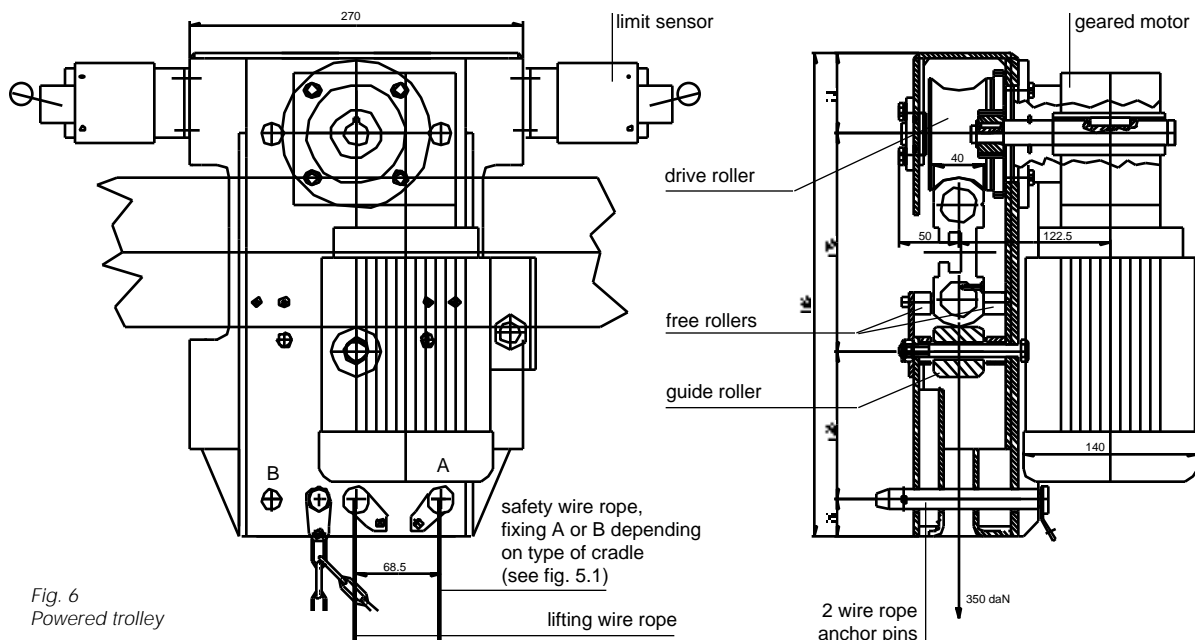
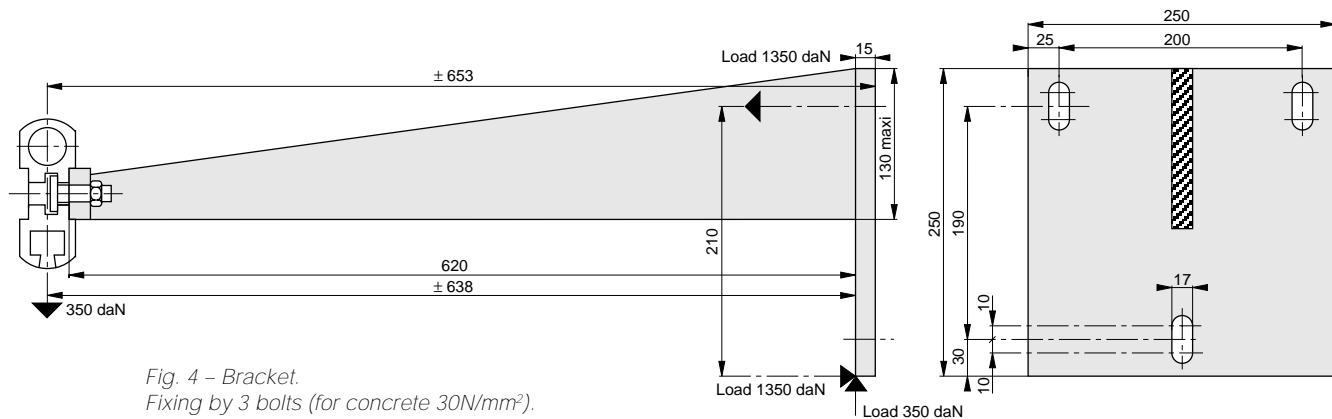

Fig. 6
Fig. 4 – Bracket.
8.2. Powered trolley (Fig. 6)
The brackets (Fig. 4) which support the rail, are positioned every 3 m on the straight sections and as set out in figures 6 to 9.1. for the curved sections. The brackets are galvanised or stainless steel.